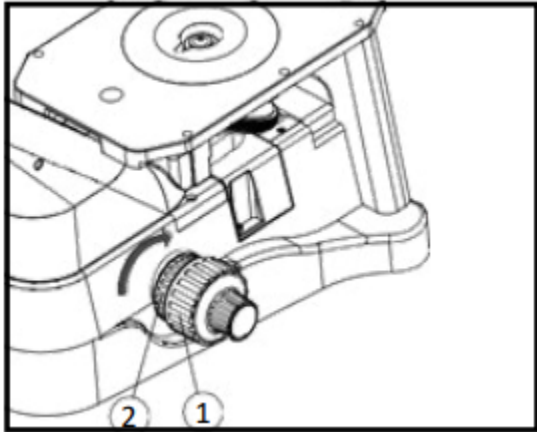

Fig. 6
#### Objective Assembly (Fig 6,7)
1. Rotate the coarse focus knob (1), until the objective nosepiece is at the lowest position. (Fig 6)